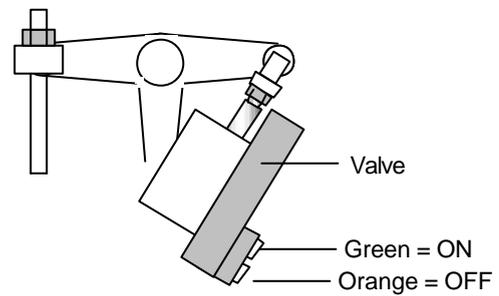

Figure 10
3. Manually, turn each station's solenoid valve OFF at zero degrees. (fig. 10)